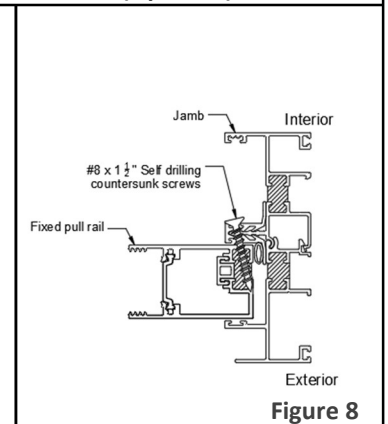

Figure 8
3.4b Install #8 x 1 1/4" self drilling countersunk screws through aluminum jamb into fixed sash as shown (figure 8).